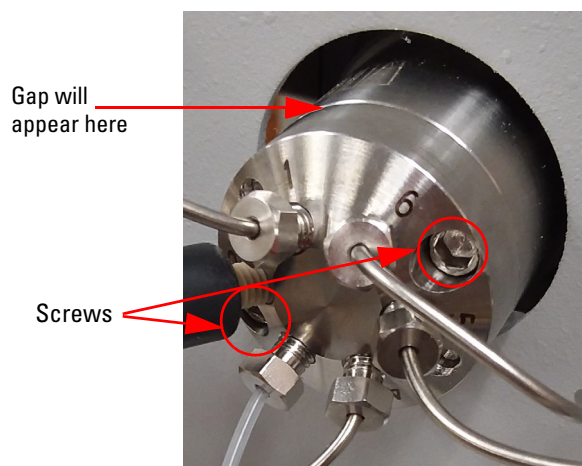

Figure 5-5 Location of screws on the stator retainer
1. Use the supplied $\frac{9}{64}$ " hex key to remove the 2 screws that retain the stator (the portion of the inject valve with the tubing connections). These should be loosened in quarter turn increments until the tension is removed and a gap starts to appear (Figure 5-5).